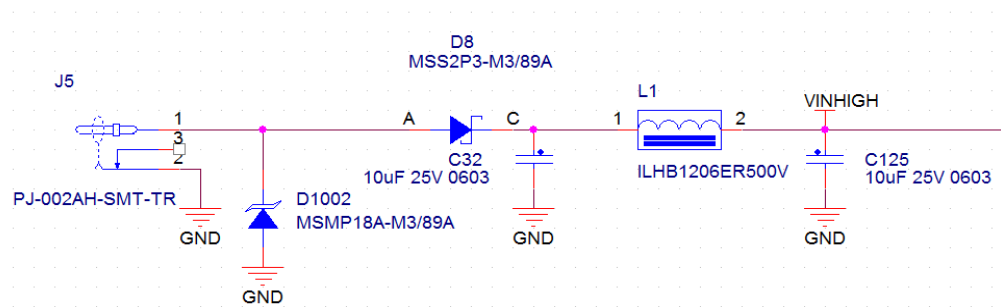

Figure 4 : Power input section
If you plan to power the NOVASOMP board through the VINHIGH pin (pin 1 of both J9 and J13) consider the insertion of an appropriate choke for EMI filtering. Pay attention on VINHIGH polarity and limits, as the VINHIGH is after the inversion protection diode D8 on the NOVASOMP board. A wrong VINHIGH connection will immediately destroy the NOVASOMP board. In Figure 4 you can see the input power schematic part of the NOVASOMP board.
- Pay attention on VINHIGH polarity and limits, as the VINHIGH is after the inversion protection diode D8 on the NOVASOMP board. A wrong VINHIGH connection will immediately destroy the NOVASOMP board. In Figure 4 you can see the input power schematic part of the NOVASOMP board.